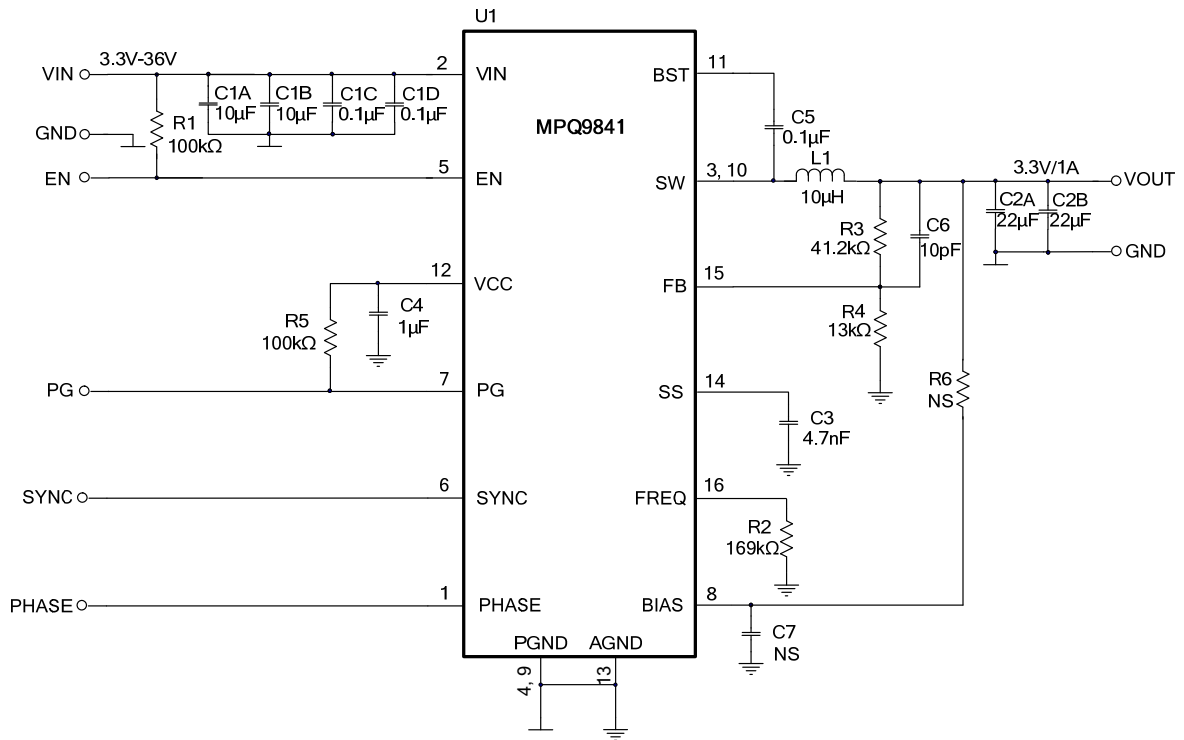

Figure 8: $V_{OUT} = 3.3V$, $F_{sw} = 500kHz$
8) The recommended PCB layout is based on Figure 8.